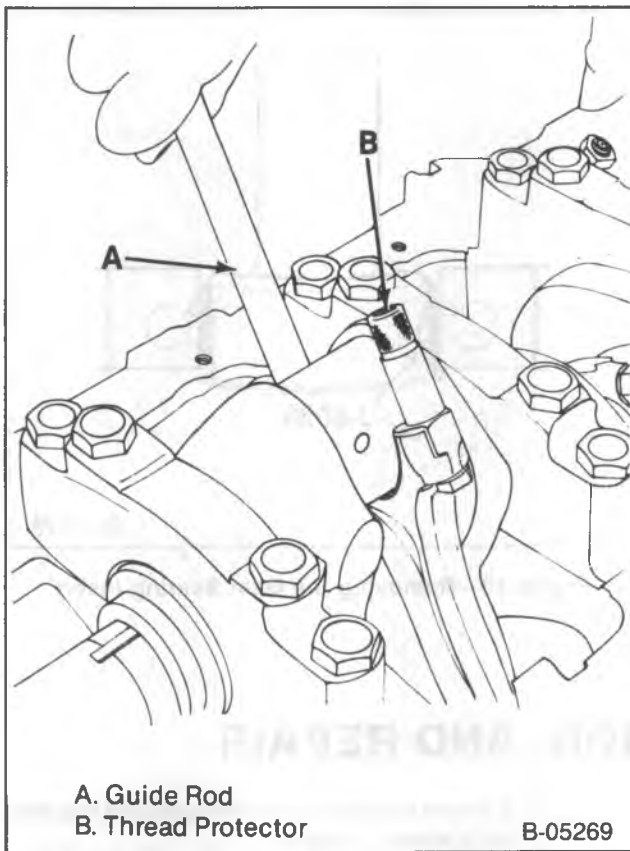

Figure 10—Replacing the Piston and Connecting Rod (Typical)
- Attach J 5239 to the connecting rod bolts (figure 10).